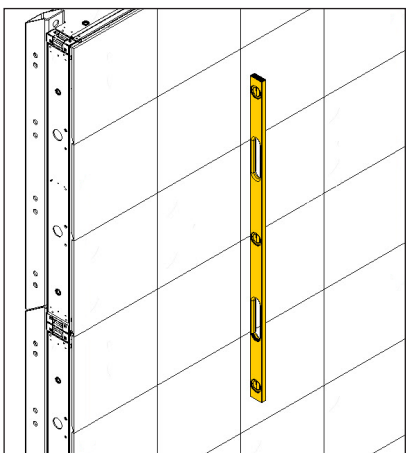

Figure 11: Ensure Display Faces Are Flush
- 9. Place a 4' level at both ends and the middle of the display seam (when possible) to ensure the display faces are flush, plumb, and flat to all adjacent sections. Refer to Figure 11. If the display faces are no longer aligned, loosen the section interconnect hardware and repeat Steps 6-9.
- Use a 4' level to ensure the display faces are flush and flat to all adjacent sections. Refer to **Figure 11**.
- Use a 4' level (when possible) to ensure the display faces are flush and flat to all adjacent sections. Refer to **Figure 11**.